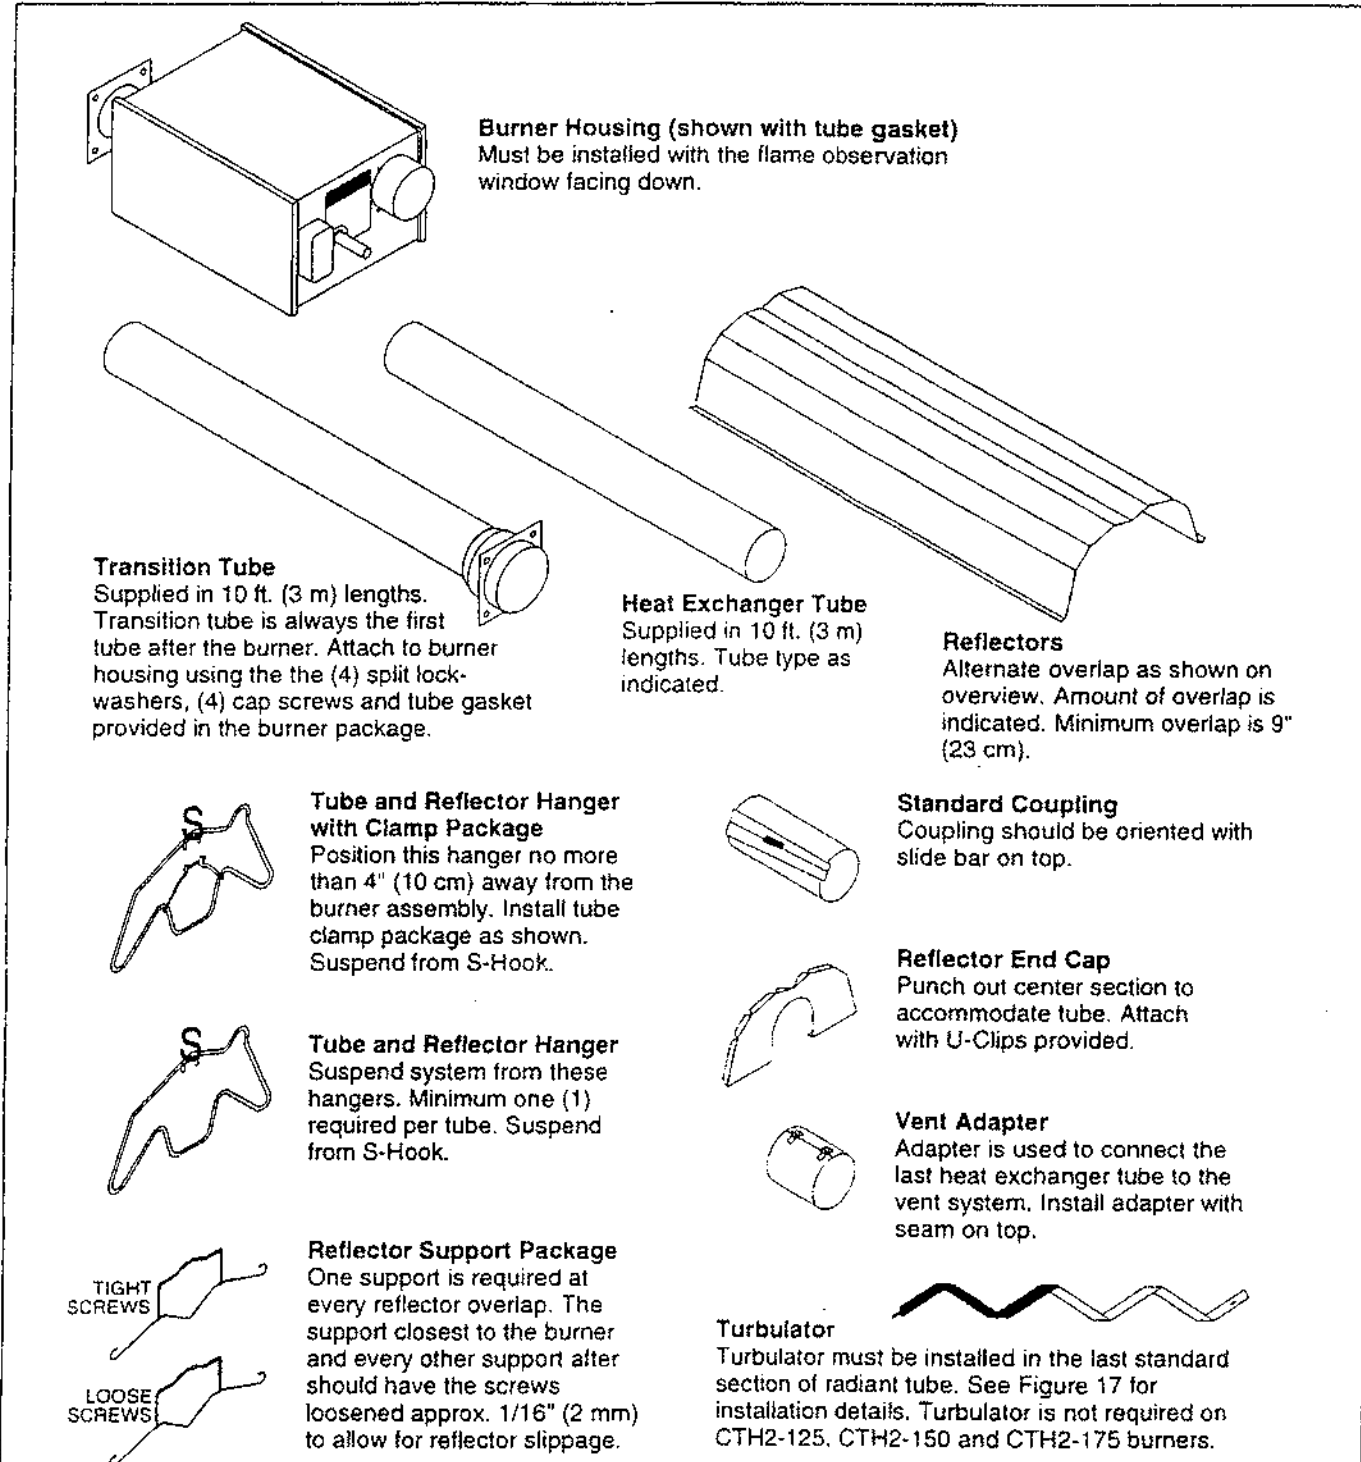
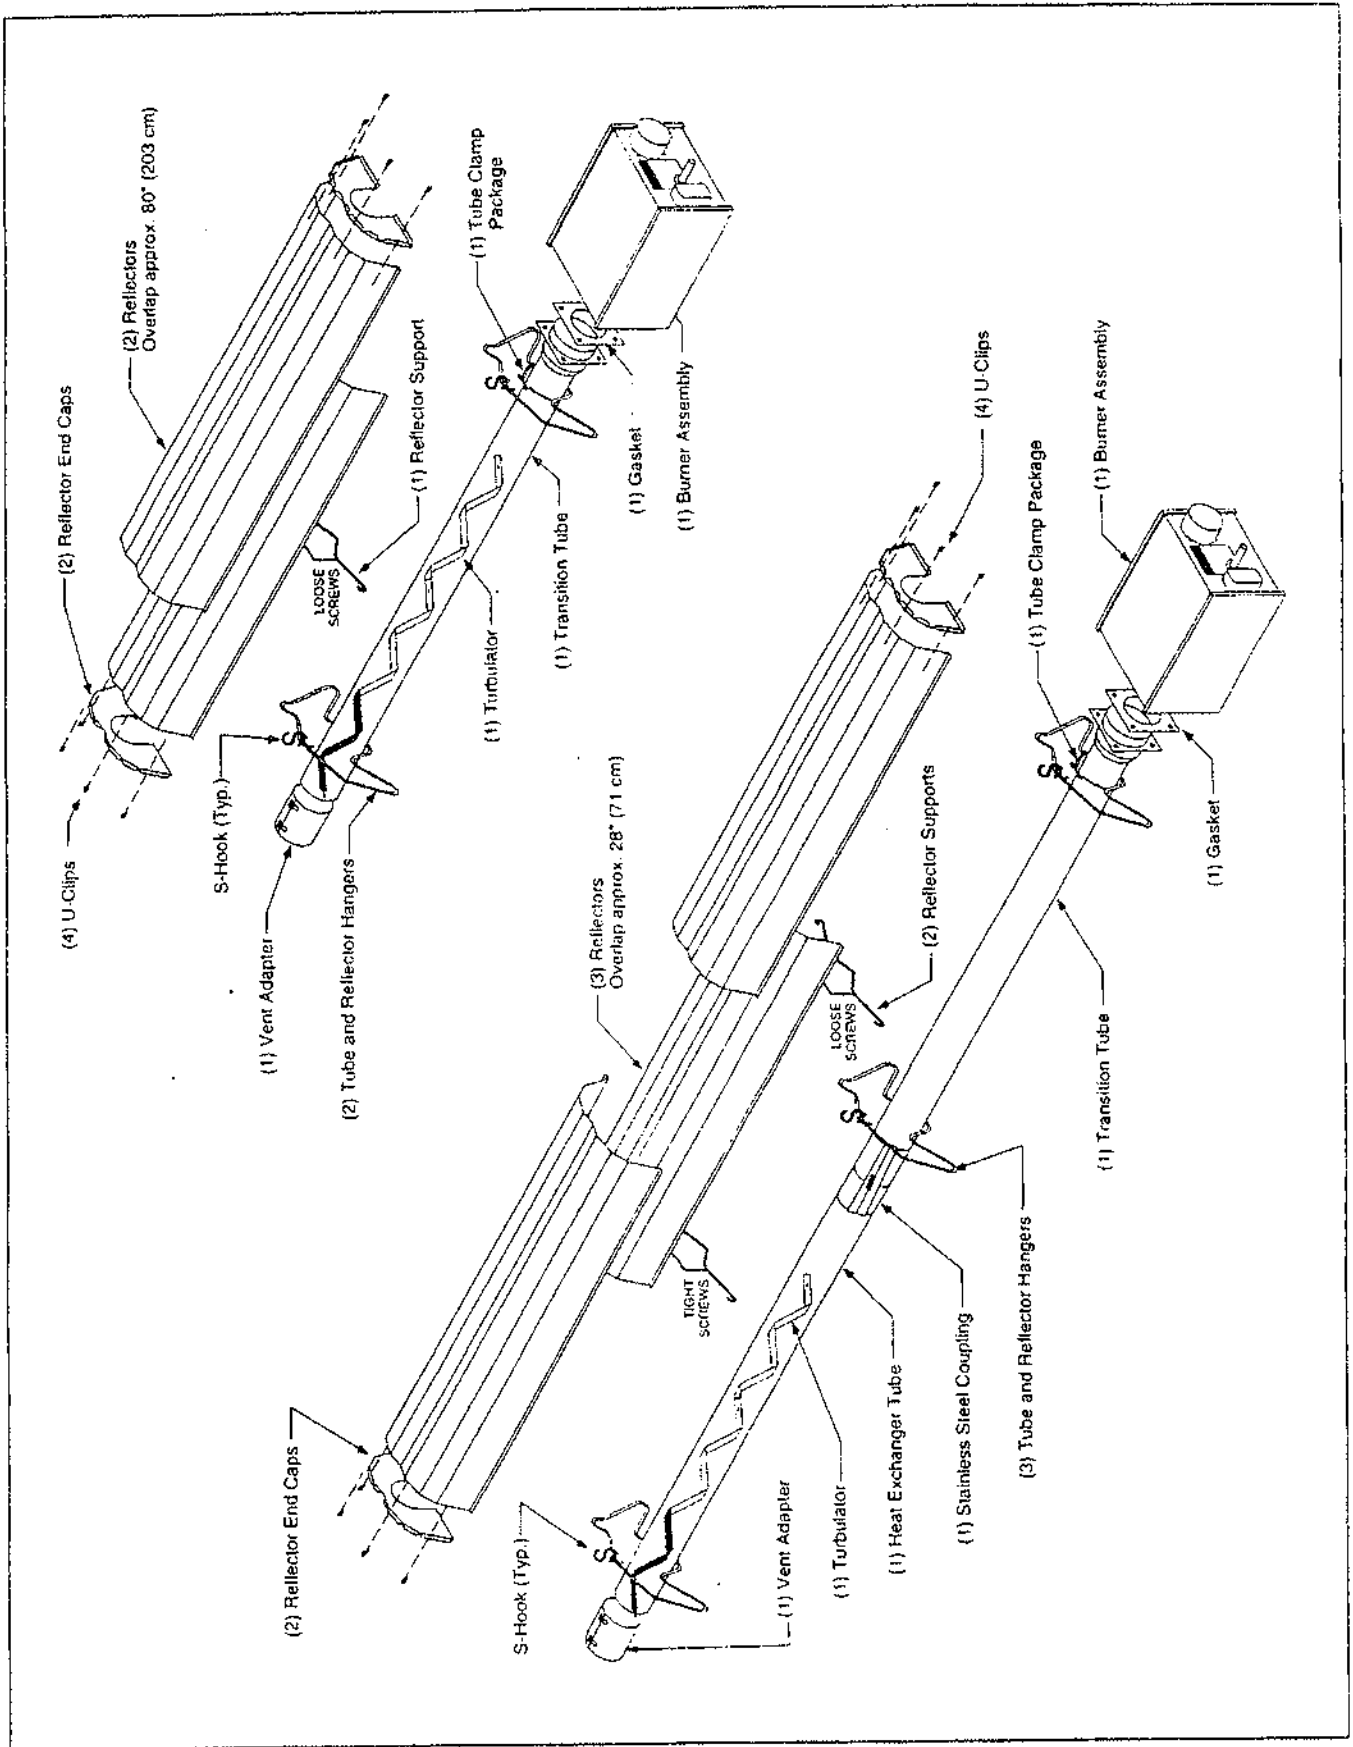

Figure 2. Assembly Overview
Figure 3. Assembly of 10 ft (3 m) Heat Exchanger System
packages for the various heaters are shown in Table 1 below. Components should be assembled as per Figures 2 through 18.
- 2) In some cases, Vantage II heaters may be received with the accessory components non-cartoned, or packaged for a specific installation. In those cases, be sure to acquaint yourself with the individual components shown in Figure 2. Also follow carefully the appropriate diagram (Figures 3 through 7) for the heater you ordered. These indicate the quantity and location of all necessary components.
The figures in this section provide a general overview of component placement in a Vantage II system. The location of some components such as supports and couplings is crucial to proper installation. Assemble the heater components as shown in Figures 3 through 7.